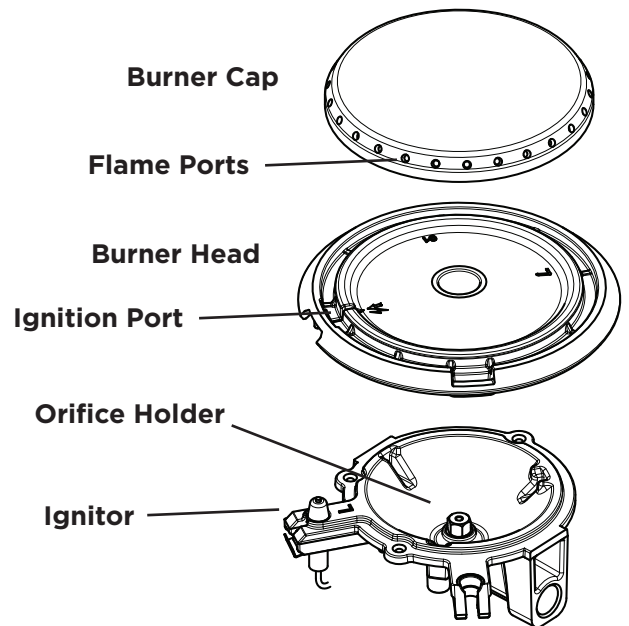

Figure 11: Burner cap, burner head, ignitor, and orifice
1. Remove the burner cap and the burner head (see Figure 11). Clean with hot soapy water and dry thoroughly